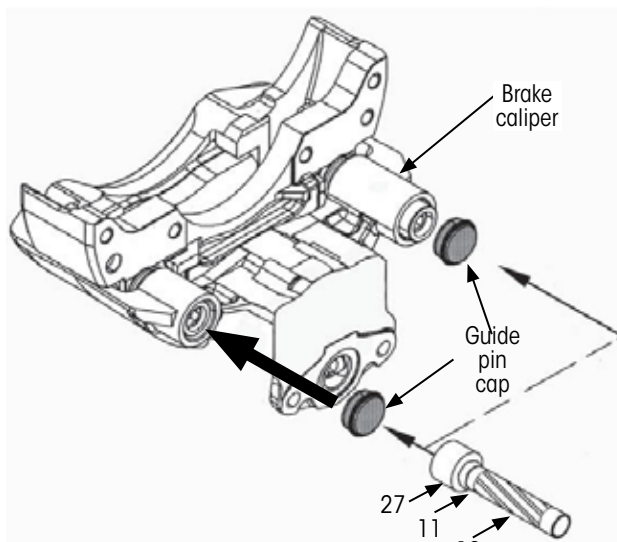

Figure 73: Guide pin cap installation
8. **Insert** two new guide pin caps into the bores of the brake caliper (Figure 73).
9. Assemble and use tool numbers 10, 11 and 27 (Appendix B) to **press** the guide pin cap down to the stop position (Figure 73 on page 30 and Figure 74).